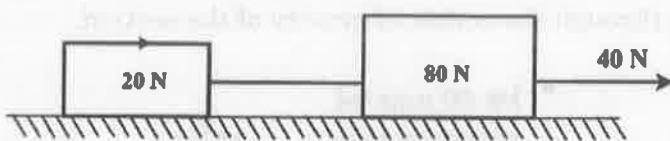

Figure 16 (a)
16. (a) Two weights 80 N and 20 N are connected by a thread and move along a rough horizontal plane under the action of a force 40 N, applied to the first weight of 80 N as shown in figure 16 (a). The coefficient of friction between the sliding surfaces of the weights and the plane is 0.3. Determine the acceleration of the weights and the tension in the thread using work-energy equation.